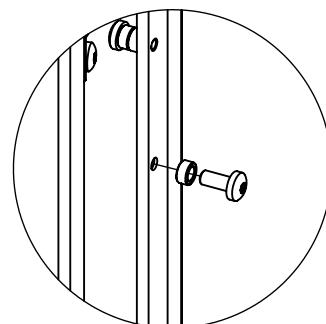

Figure 42: Bushing and Screw: 3-Sided
2. In the case of the 3-Sided Panel, hang the surround on the appropriate hooks depending on the optional surround that will be used with the trimable panel. See Figures 42 and 43.